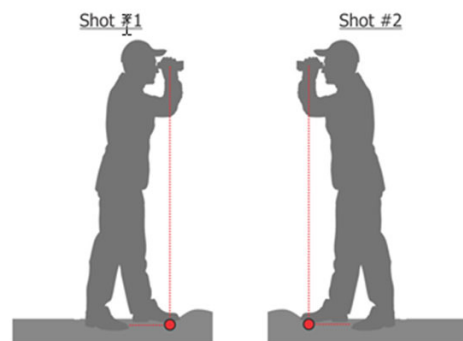

Figure 19
- Place your feet on either side of the coin, so the coin is centered between your feet and the TruPulse is directly above the coin. See Figure 19.
- While keeping the TruPulse directly above the coin, aim to target #2. Being careful not to make a big swinging motion, reposition your feet on both sides of the coin. See Figure 19.